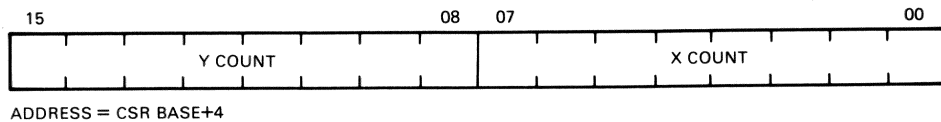

Figure C-23 Mouse Position Register Format
C.2.2.3 Mouse Position Register – This register (Figure C-23 and Table C-6) contains mouse X- and Y-position values. The values are counted up or down, in proportion to the direction and amount of mouse movement.